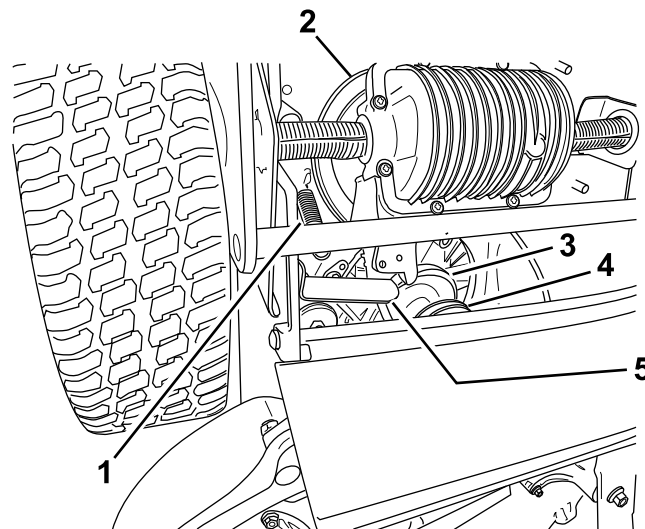

Figure 41
8. Avancez la patte (Figure 41).